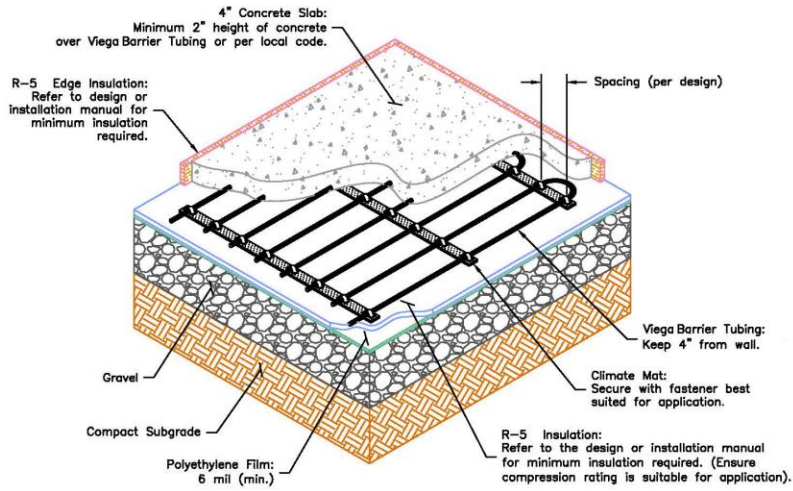

Figure 9 Climate Mat – In-Slab with Insulation
**Climate Mat:** Climate Mat is a prefabricated tubing assembly made to order and delivered in cylindrical rolls. Climate Mat is engineered for rapid installation; up to 6 circuits can be laid down at once. Climate Mat utilizes 1/2" (12.7mm) or 5/8" (15.9mm) tubing with 6", 9" or 12" center spacing. After inspection of tubing, place mats per radiant design. Secure the first spacer strip to the sub base or wire mesh (fastening methods will vary depending on the type of sub base). Unroll the mat and pull it tight ensuring that it is straight and square. Attach the last spacer strip to the sub base or wire mesh. Return and anchor each spacer strip with at least two fasteners. Run the leaders back to the manifold location and attach the tubing. Fasten the leaders to the sub base with the appropriate fastener and spacing. See Figure 9.